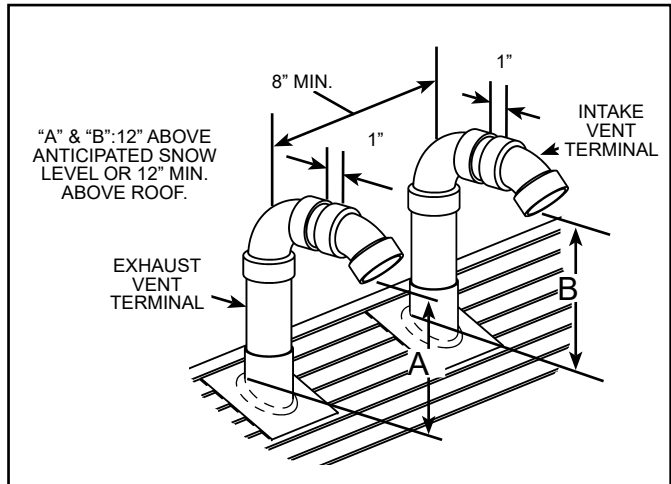

Figure 21.
**Important:** When terminating the vents through a roof, the following specifications pertaining to terminal location must be followed (see Figure 21).